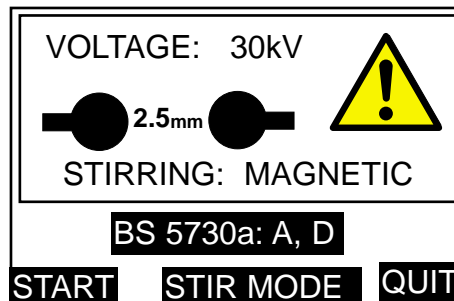

Figure 20. BS5730a Test start display screen.
5. The display will now change to show the correct withstand voltage together with the selected electrode gap. Assuming that the 2,5mm key was operated, the display would appear similar to figure 20.